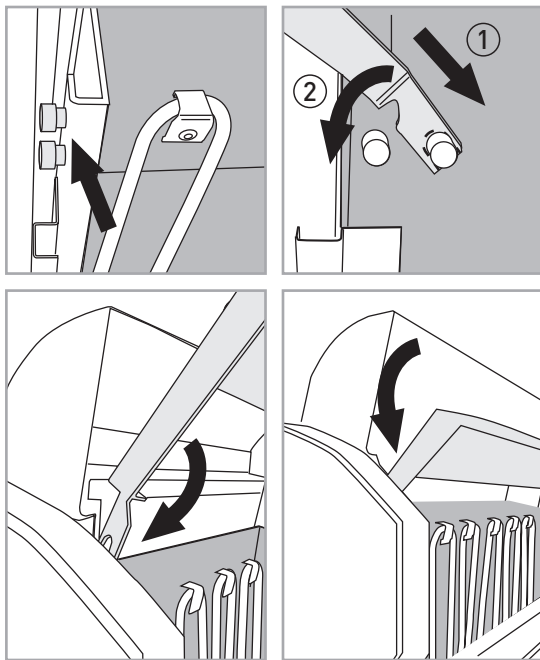

Figure 3.6
4) Install the heater stone shelf: there are metal fastening pins for the shelf, located on the inside of the heater, approximately 9 cm downward from the upper end of the air deflector. Insert the support arms of the heater stone shelf in the rearmost pins diagonally from the top (1) and turn the shelf by the arms so that it rests on the front fastening pins (2). After that, the heater stones can be stacked on the shelf (see Figure 3.6).